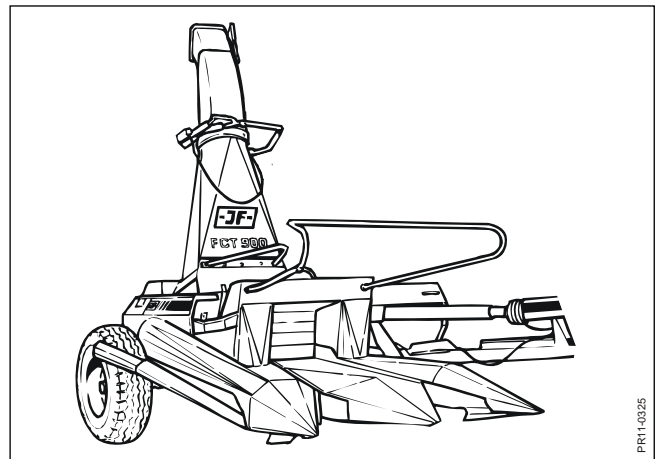

Fig. 3.14
- Fig. 3.14** Mount 2 straw dividers on the right side of the maize unit.